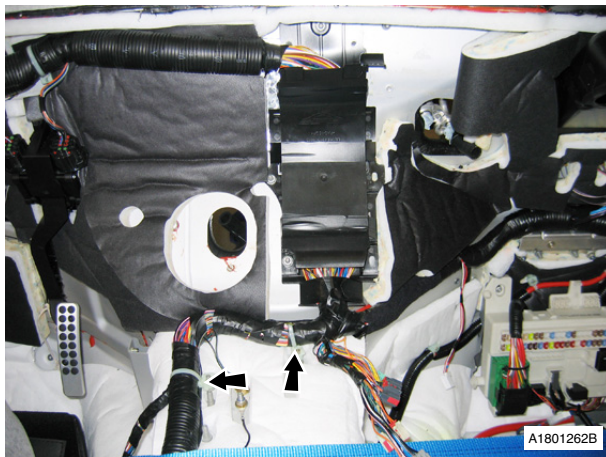

Fig. 30
69. Remove harness clips (x4) (see Fig. 30).